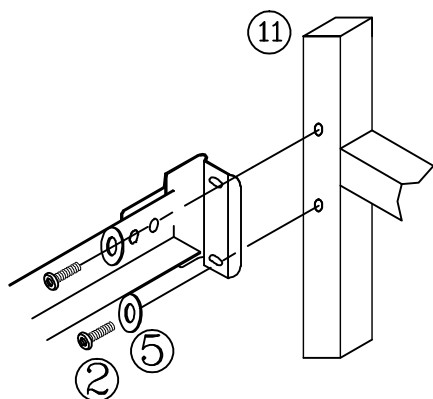

FIGURE 3
- Place a flat washer (5) first and then a nut (4) on each screw. Hand-tighten, DO NOT TIGHTEN screws all the way.
- Tighten all screws securely using the Allen wrench (6) and open wrench (7).
- Position footboard panel and align holes in the post (11) with holes in the frame bracket. (See figure 3)
- Place flat washer (5) on each screw (2). Insert through bracket and into post. Hand-tighten, DO NOT TIGHTEN screws all the way.